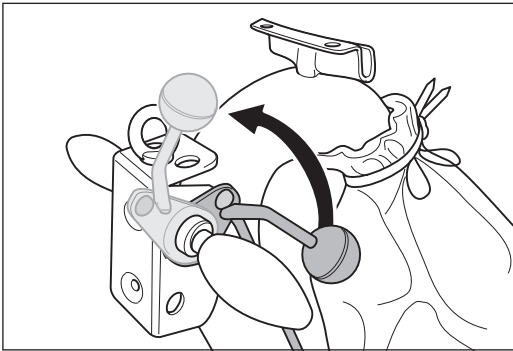

Fig. 64 Lift the sanding drum off the floor by turning the lowering lever at the handle upwards.
- 1 Lift the sanding drum off the floor by turning the lowering lever at the handle upwards (Fig. 64).